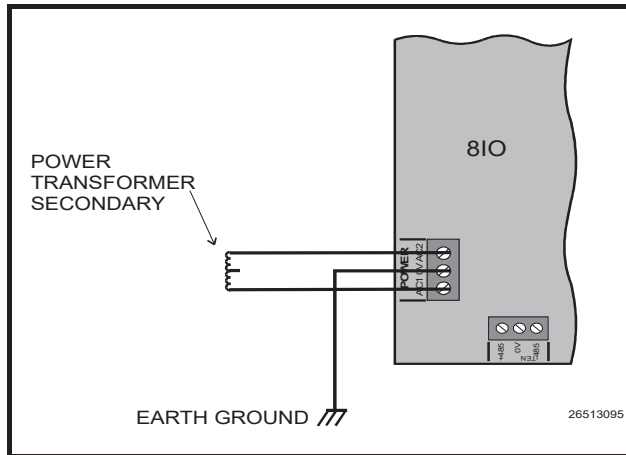

Figure 5-10-Single 8IO Board Wired to One Transformer
1. By itself with one transformer for power (**Figure 5-10**)